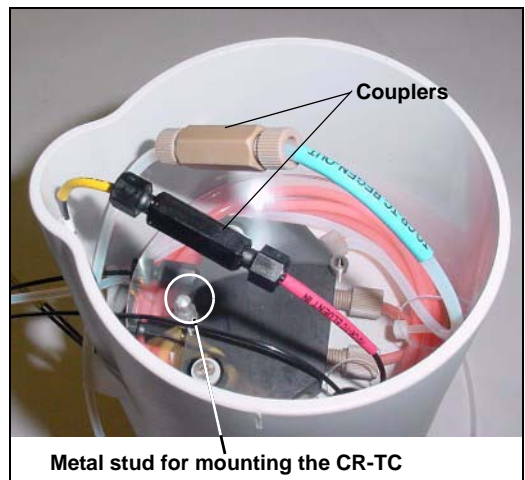

Figure 5-72. EGC Holder (upside down)
4. Turn the new holder upside down (see Figure 5-72) and connect the liquid lines to the CR-TC.